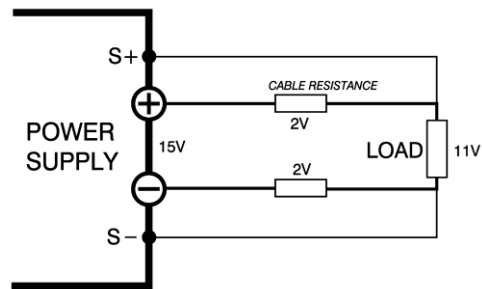

Figure 6.4: Remote sensing, voltage drop in load leads subtracts from maximum DC output.
- To compensate for the voltage-drop across the load leads, the unit will have to supply a higher voltage, see Figure 6.4.